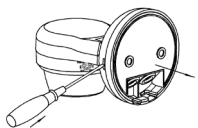

Figure1
- Use a screwdriver to unload the bottom (refer to figure 1). Open the wire hole in the bottom and pass the wire through the hole.